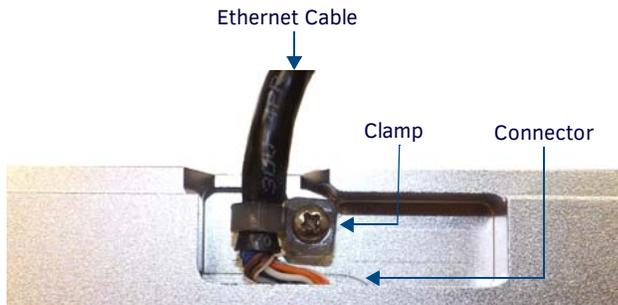

FIG. 47 Bottom of the MXT-700/1000
In tabletop installations where concealing the Ethernet cable is desired, a hole at least 1.00" (2.54 cm) in diameter is required in the surface to allow passage of the female RJ45 connector (FIG. 47). If using a smaller hole is unavoidable, you will need to disconnect the Ethernet cable (ECA5968-05) from the device, to feed the male end of the cable through.
2. Remove the clamp holding the Ethernet cable (FIG. 47).